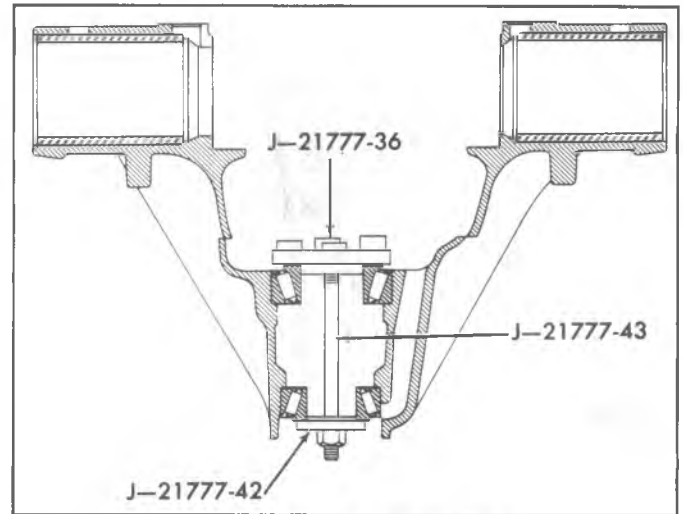

Fig. 20B--Gage Plate Installed
3. Use cloverleaf gage plate J-21777-29 for 8-1/2" ring gear or J-21777-36 for 8-7/8" ring gear or J-21777-85 for 9 1/2" ring gear mounted on preload stud J-21777-43 insert stud through rear bearing and pilot J-21777-35, or J-21777-8 for the 9 1/2" ring gear. and through front bearing and pilot J-21777-42. Install the hex nut until snug and rotate the bearings to make sure they are properly seated. See figure 20B for illustration of proper positioning.